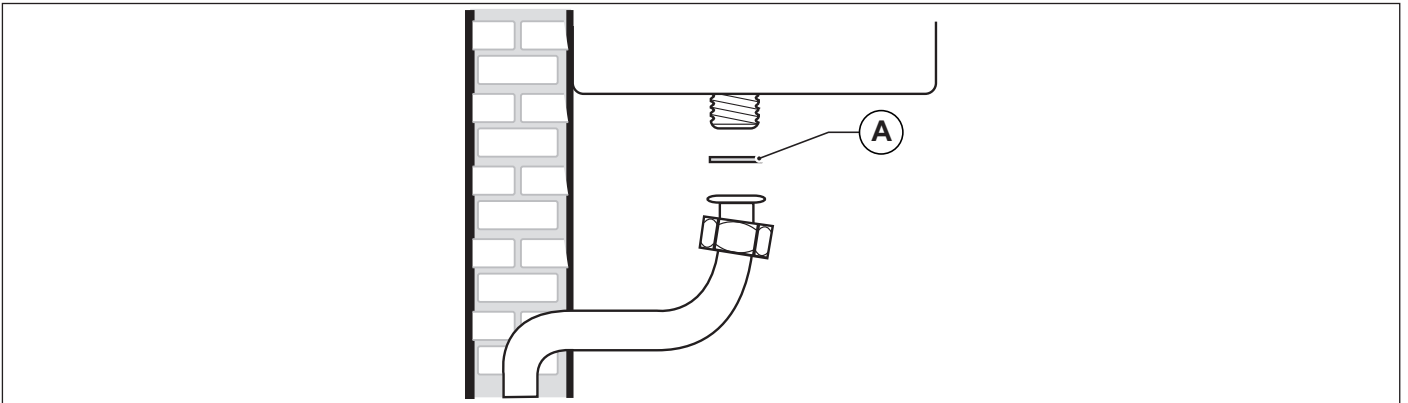

Fig. 8 Connection to gas mains
When connecting the boiler to gas supply network, it is COMPULSORY to install an appropriately sized gasket (A) made from suitable material (see Fig. 8 Connection to gas mains).